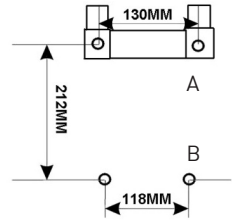

Figure 1
- Mark the position of the 2 holes (A) using the mounting bracket at a height of cm 110/120 from the floor
- Make 2 more holes (B) at a distance as shown in Figure 1
- Fix the product to the wall with screws in the lower holes (B)